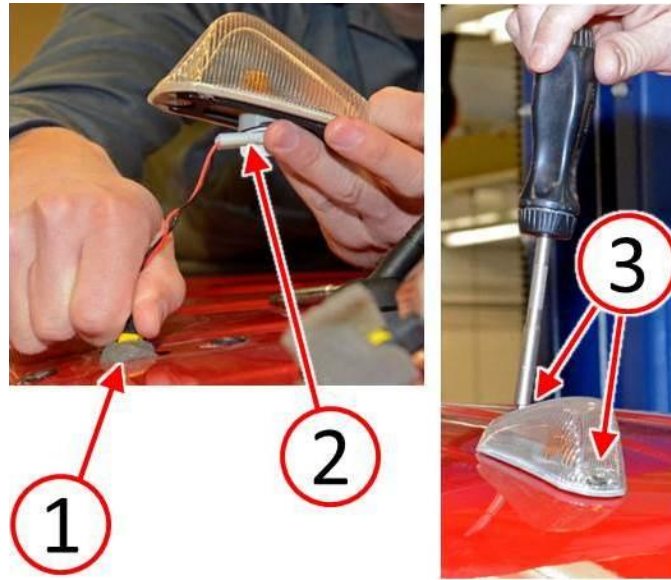

Fig. 6 Install Roof Clearance Lamp
6. Feed the electrical harness (1) into the roof opening (Fig. 6).
7. Install the roof clearance lamp (2) to the vehicle (Fig. 6).
8. Install the roof clearance lamp screws (3) and tighten to 2 N·m (18 in. lbs.) (Fig. 6).